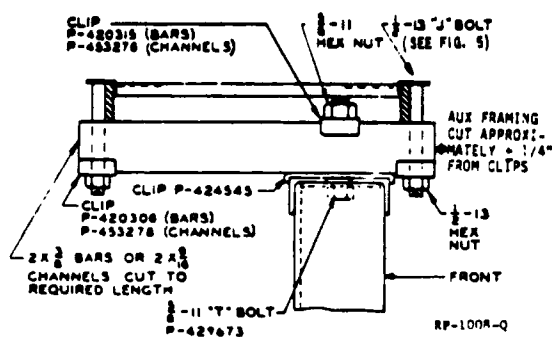

FIG. 62D ANGLE-TYPE RELAY RACK SUPPORTED FROM CABLE RACK BY AUXILIARY FRAMING - STEP-BY-STEP, TOLL AND MANUAL - A&M ONLY (PARS. 2.62, 3.1, 3.11)
2.62 This paragraph is rated A&M Only. Support ladder-type cable rack over relay racks, message register racks, and similar frames in step-by-step offices as shown in Figure 62D.